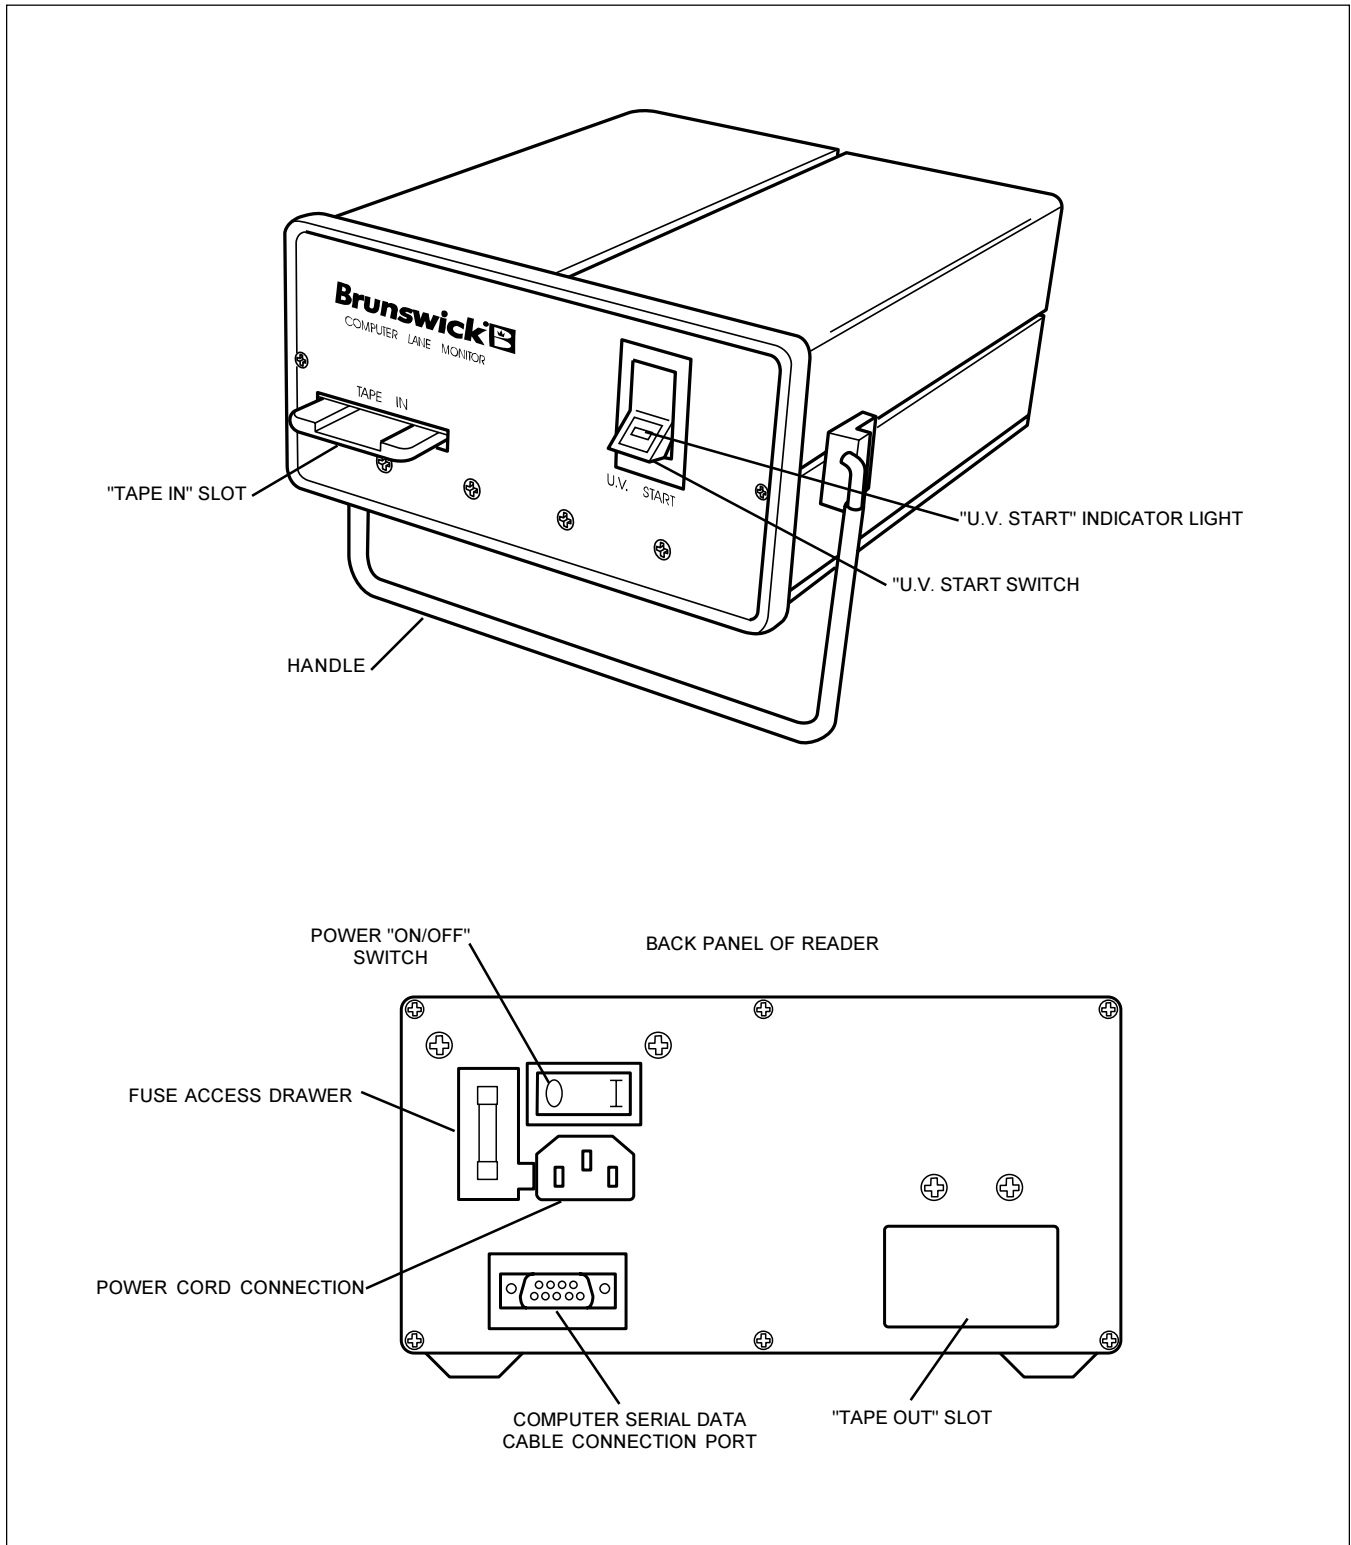

Figure 10 - Computer Lane Monitor Optical Reader Familiarization
1. With the Computer Lane Monitor Optical Reader turned off, locate the switches, indicator light, cable connection, tape slots, and fuse location. See Figure 10.
1. Plug the supplied power cord into the connection on the back panel of the Optical Reader. See Figure 10.
3. Plug the male end of the supplied RS232 serial computer data cable into the connection port on the back panel of the Optical Reader. See Figure 10.
1. Turn on the Optical Reader power switch located on the back panel. See Figure 10. The switch is marked with a "1" for ON and "0" for OFF.